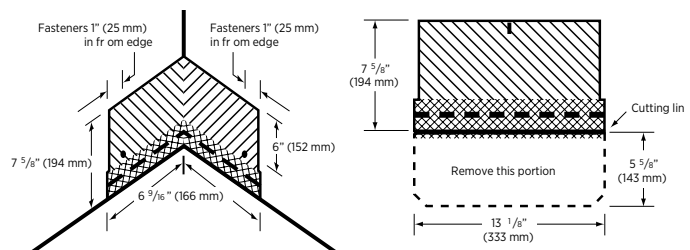

Figure 11-13: Shadow Ridge XL Starter Course Fastening
Cut 5 5/8" (143 mm) off the exposure portion of one piece of the hip and ridge shingle. Align butt edge to the bottom of the hip or to either end of the ridge. Fasten with two (2) fasteners 6" (152mm) from the top of the shingle and 1" (25mm) from each side of the shingle (Figure 11-13).
Cut 5-5/8" (143 mm) off the exposure portion of two (2) pieces of the hip and ridge shingle. Apply this double-layer shingle (one on top of the other), aligning butt edge to the bottom of the hip or to either end of the ridge. Fasten with two (2) fasteners 6" (152mm) from the top of the shingle and 1" (25mm) from each side of the shingle (Figure 11-13).
Cut 5-5/8" (143 mm) off the exposure portion of three (3) pieces of the hip and ridge shingle. Apply this three-layer shingle (one on top of the other), aligning butt edge to the bottom of the hip or to either end of the ridge. Fasten with two (2) fasteners 6" (152mm) from the top of the shingle and 1" (25mm) from each side of the shingle (Figure 11-13).